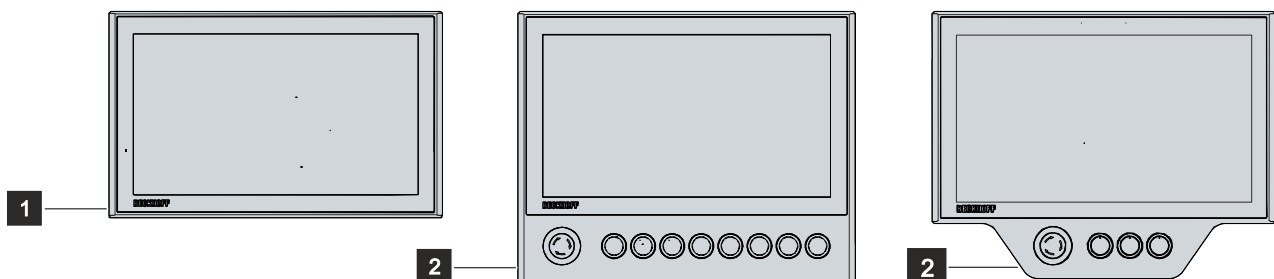

Fig. 1: Control panel with push button extension
Notes on the push button extension and the functions can be found in the installation and operating instructions for the C9900-G02x or C9900-G05x. Figure 1 shows an example of a control panel without (1) and with (2) push button extension.